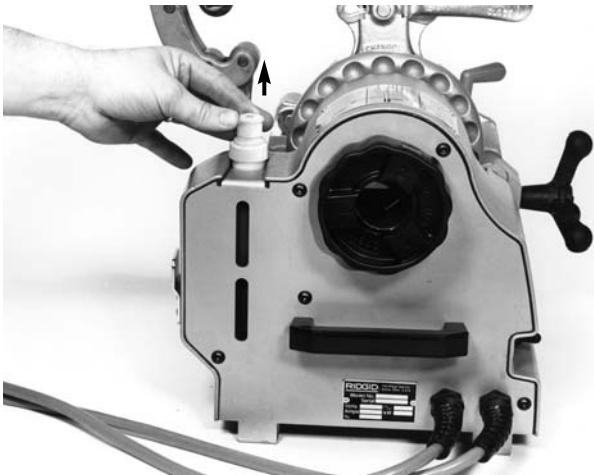

Figure 6 – Reservoir Vent Open
17. Pull the vent on the reservoir cap open (*Figure 6*). Do not thread with the vent closed. This will reduce coolant flow and could cause die chipping and poor quality threads.